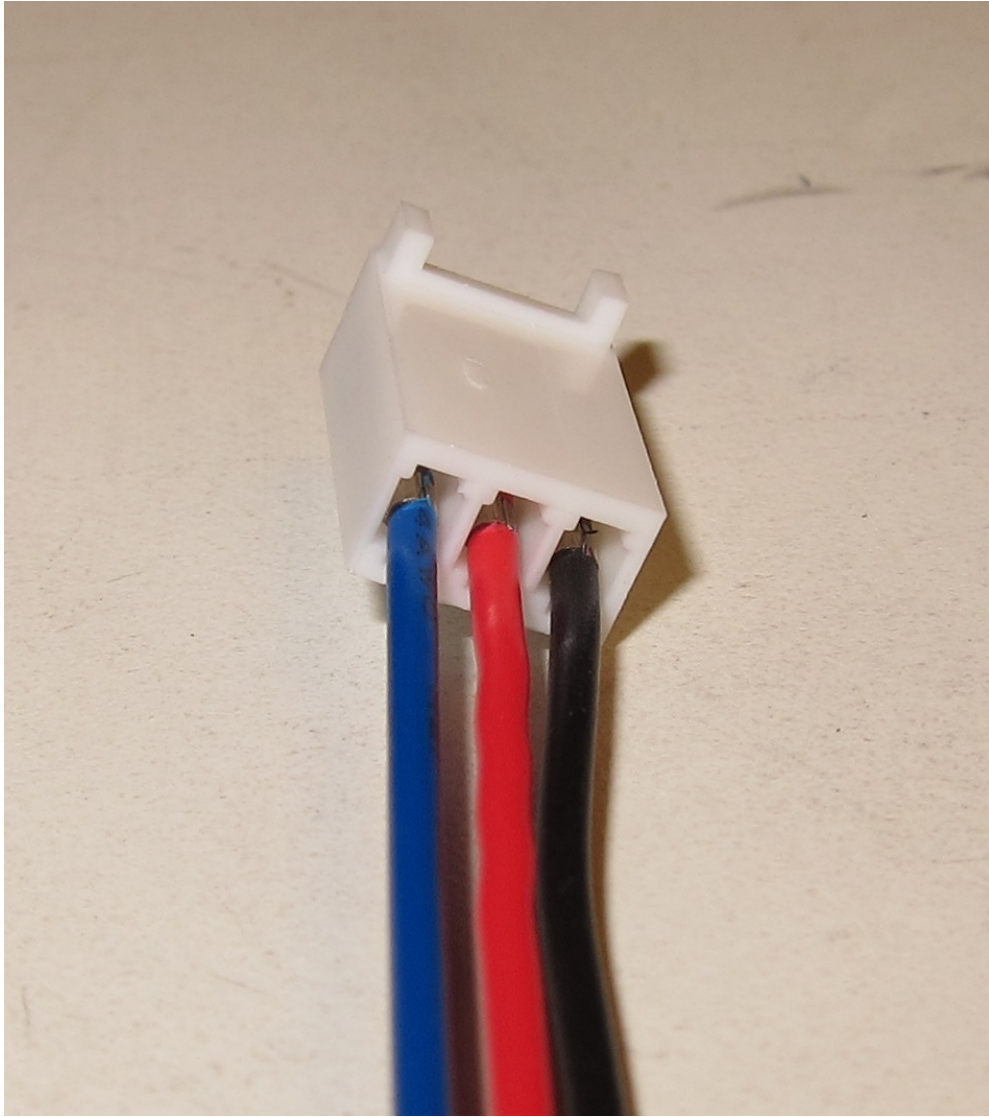

Figure 23: Fan connector's wire configuration
3. Insert the pins into the fan connector body (Molex 22-01-3037), see Figure 23.